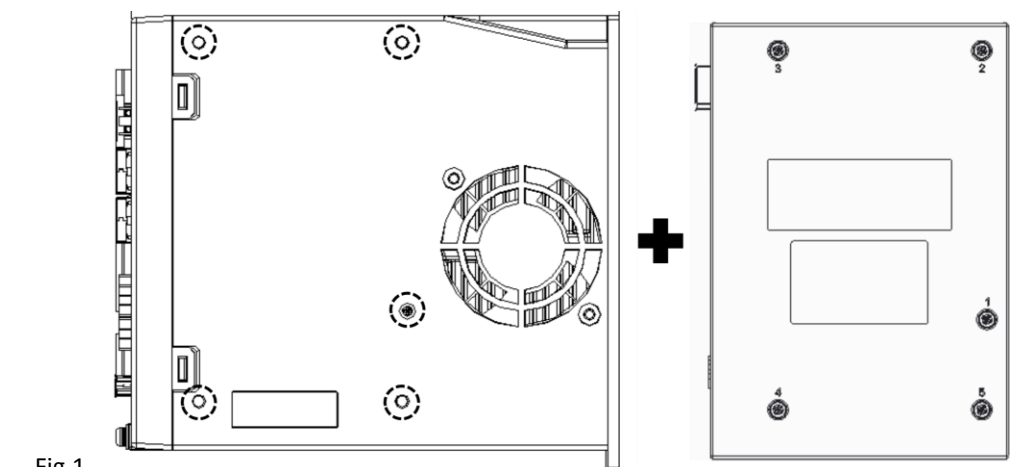

Fig.1
- Remove the dust plug on the right side of the driver. Then align and connect the pin on the left side of the expansion card with the socket on the right side of the driver. (Fig.1)